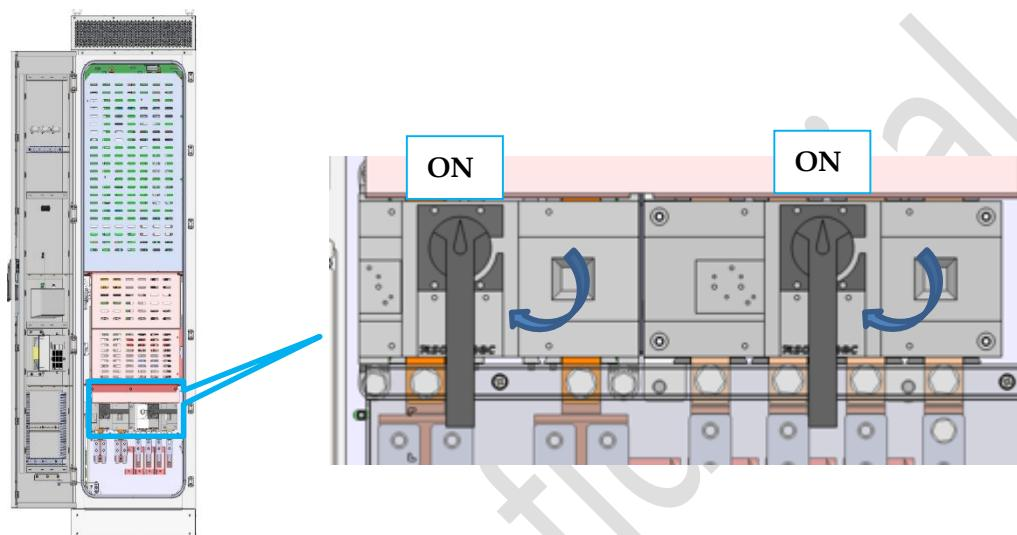

Figure 5-1 AC and DC disconnects ON location
**Step 2:** turn the AC and DC switches/disconnects in the front of the cabinet to ON state as shown in Figure 5-1. The PCS powers on and enters standby mode.
**Step 3:** set the correct IP address (Default:192.168.1.136) and port number (502) and start communicating with PCS100HV.